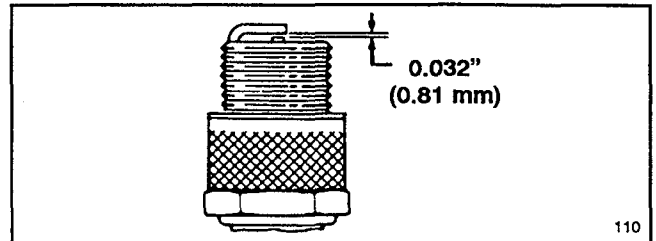

Figure 19
3. Set air gap at 0.032" (0.81 mm) (Fig. 19). Install correctly gapped spark plug and gasket seal. Tighten plug firmly to 10 ft-lb (13.6 N-m).